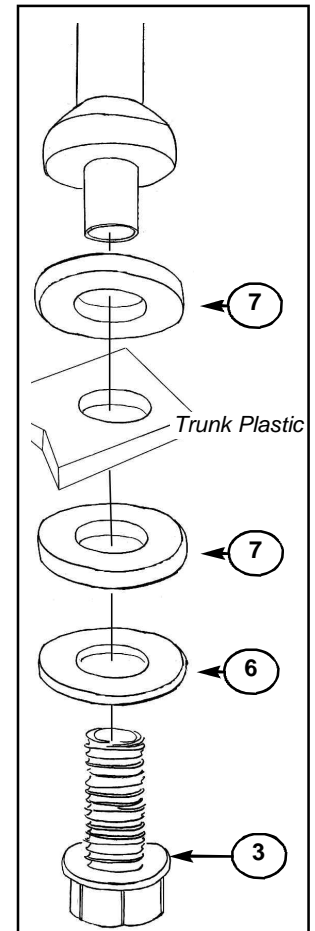

Figure 2.
3. Install one rubber washer .375" ID onto each of the remaining legs. Figure 2.